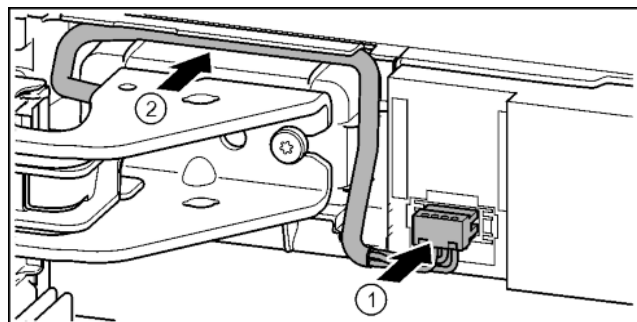

Fig. 36
- ▶ Engage the plug above the upper bearing bracket and carefully place the cable strands into the channel. *Fig. 36 (1)*
- ▶ Carefully position the grey cable in the guide above the top bearing bracket. *Fig. 36 (2)*